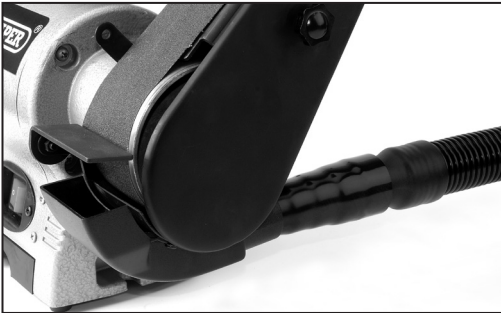

FIG. 8
7.3 REPLACING THE SANDING BELT - FIG.8